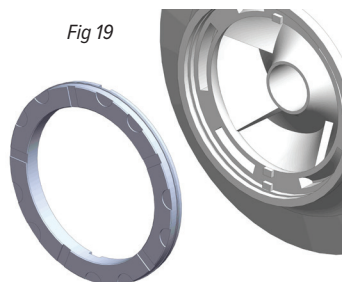

Fig 19
3. Position the replacement impeller thrust ring in the bore of the front shroud with the snap fit ridge towards the bottom of the bore. See figure 19. Align the two anti-rotation slots on the impeller thrust ring with the two raised bosses of the impeller shroud.